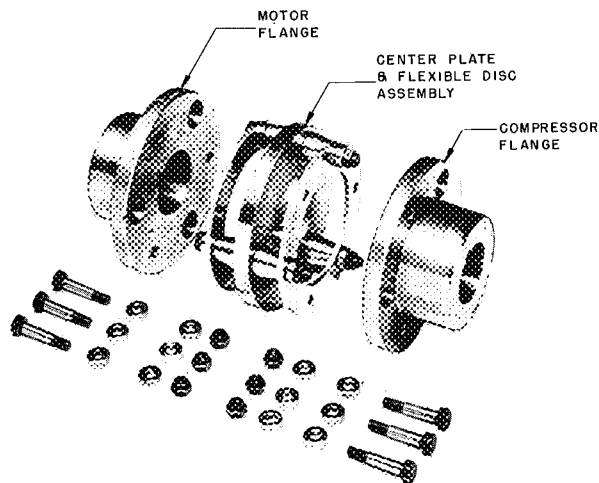

FIG. 9 — DISMANTLED COUPLING READY FOR ASSEMBLY TO COMPRESSOR AND MOTOR
(A) Refer to Fig. 9 for identification of coupling parts. Couplings should be disassembled in this manner when ready to install.